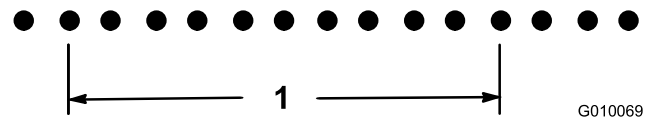

Figure 64
21.2 divided by 10 is 2.12, hole spacing is long by .12 inch from nominal (Figure 64).